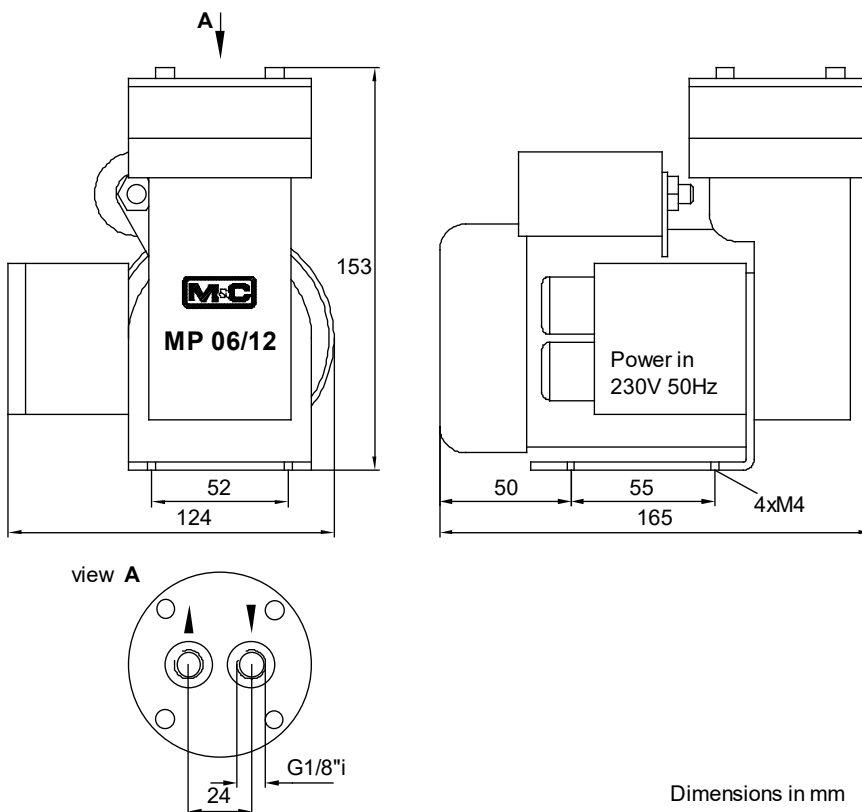

Figure 2 Dimensions (mm) MP06
- The mounting dimensions are given in figure 2.